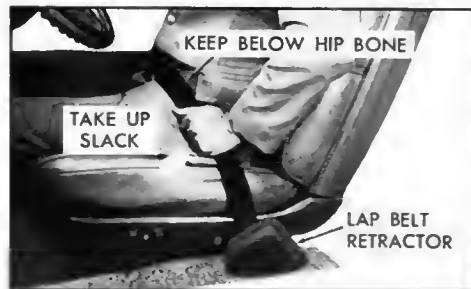

FIG. 1-17: SNUG-LOW LAP BELT POSITION
- Position “lap” portion of belt across lap as LOW ON HIPS as possible. To reduce the risk of sliding under belt during an accident, adjust to a SNUG FIT by pulling belt firmly across lap in direction of lap belt retractor so it can take up slack. The belt retractors are designed to automatically take up excess webbing, Fig. 1-17.